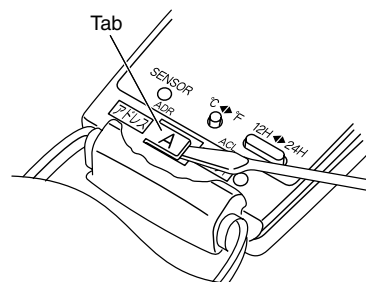
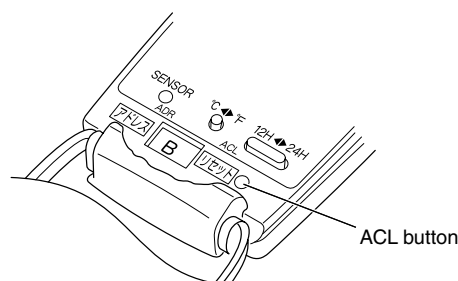
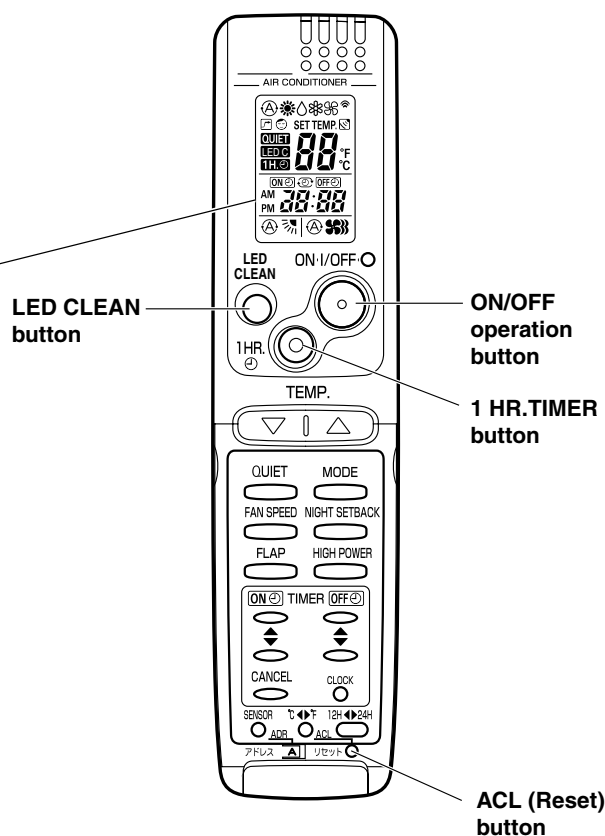

Fig. 13
Fig. 14
Fig. 15
- (1) Switch on the power source.
- (2) Break the address-setting tab marked "A" on the second remote controller to change the address (Fig. 13). When the tab is removed, the address is automatically set to B (Fig. 14).
- (3) Press and hold the remote controller LED CLEAN button and 1 HR TIMER button. At the same time, press the ACL(reset) button. Use a thin object such as the tip of a pen to press the ACL button. When this has been done, "oP-1" (test run) appears, blinking, in the remote controller clock display area.
- (4) Each time the 1 HR TIMER button is pressed, the display changes as shown below. Press this button 2 times to change the display to "oP-7" (address setting). (Fig. 15)
- (5) "oP-7" has now been selected for address setting.
- (6) Press the ON/OFF operation button on the remote controller. (Fig. 15) Check that the "beep" signal received sound is heard from the second indoor unit (approximately 5 times). The sound you hear is the signal that the remote controller address has been changed.
- (7) Finally press the remote controller ACL (reset) button to cancel the blinking "oP-7" display. (Fig. 15)